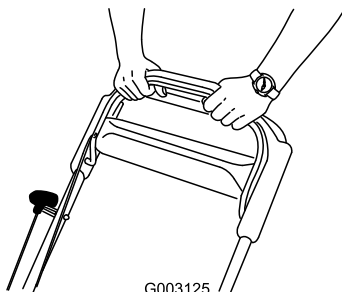

Figure 32
3. Hold the blade control bar against the handle (Figure 32).